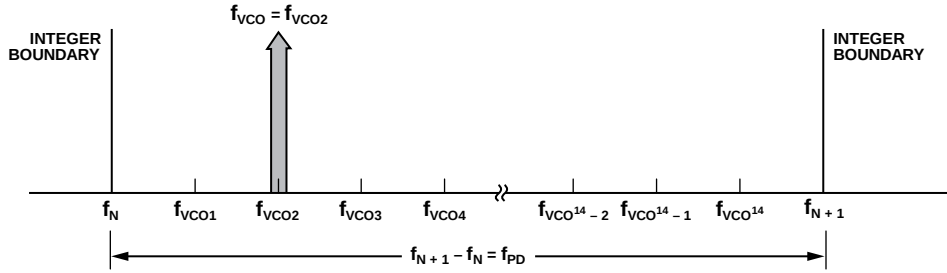

Figure 26. Exact Frequency Tuning
f_{VCO} is the channel step frequency, $0 < k < 2^{24} - 1$, as shown in Figure 26.
related to the interval frequency ($f_{VCOk} - f_{VCO(k-1)}$) in Figure 26. Consequently, the shortened accumulator results in more frequent repeating patterns and, as a result, often leads to spurious emissions at multiples of the repeating pattern period, or at harmonic frequencies of $f_{VCOk} - f_{VCO(k-1)}$. For example, in some applications, these intervals may represent the spacing between radio channels, with the spurious occurring at multiples of the channel spacing.
When multiple, equally spaced, exact frequency channels are needed that fall within the same interval (that is, $f_N \leq f_{VCOk} < f_{N+1}$) where f_{VCOk} is shown in Figure 26 and $1 \leq k \leq 2^{14}$, it is possible to maintain the same Integer N register (Register 0x03) and exact frequency register (Register 0x0C) settings and only update the fractional register (Register 0x04) setting. The exact frequency channel mode is possible when Equation 17 is satisfied for at least two equally spaced adjacent frequency channels, that is, the channel step size.
To configure the ADF5610 for exact frequency channel mode, initially and only at the beginning, the Integer N register (Register 0x03) and exact frequency register (Register 0x0C) must be programmed for the smallest f_{VCO} frequency (f_{VCO1} in Figure 26). Calculate and program the integer register setting by
where f_{VCO1} is shown in Figure 26 and corresponds to the minimum channel VCO frequency. Then, the lower integer boundary frequency is given by $f_N = N_{INT} \times f_{PD}$.
f_{VCO1} , as shown in Figure 26, represents the smallest channel VCO frequency that is greater than f_N .
- To change from Channel 1 ($f_{VCO1} = 2800.2 \text{ MHz}$) to Channel 2 ($f_{VCO2} = 2800.3 \text{ MHz}$), only Register 0x04 must be programmed, as long as all of the desired exact frequencies (f_{VCOk} , see Figure 26) fall between the same Integer N boundaries ($f_N < f_{VCOk} < f_{N+1}$). In that case,